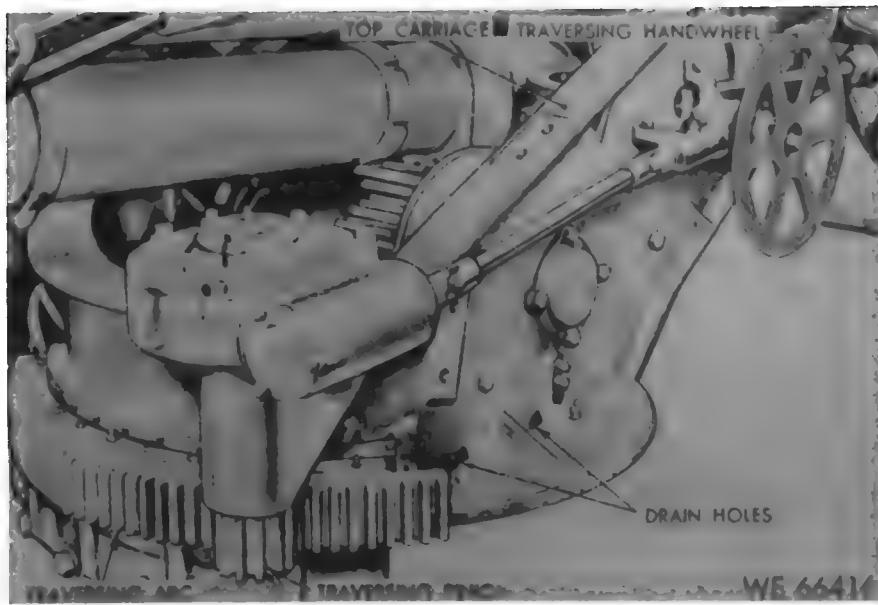

Figure 133. Traversing mechanism—left front view.
There are two drain holes (fig. 133) in each side of the top carriage. Keep these holes open to prevent the accumulation of water and the resultant formation of rust. No other maintenance of the top and bottom carriages except normal cleaning (para 71c), painting (para 67c and d), and lubrication (para 64) is prescribed for the using organization.
b. *Traversing Mechanism.* The traversing mechanism is secured to and rotates with the top carriage. It controls the movement of the weapon in azimuth by means of the traversing pinion (fig. 133), which is rolled in the teeth of the stationary traversing arc. Motion of the traversing mechanism handwheel assembly is transmitted through gears, flexible joints, a shaft, a worm, and a worm wheel to the traversing pinion, which meshes with the traversing arc. The mechanism is mounted on the left of the top carriage to provide clearance for the weapon at minimum elevation.